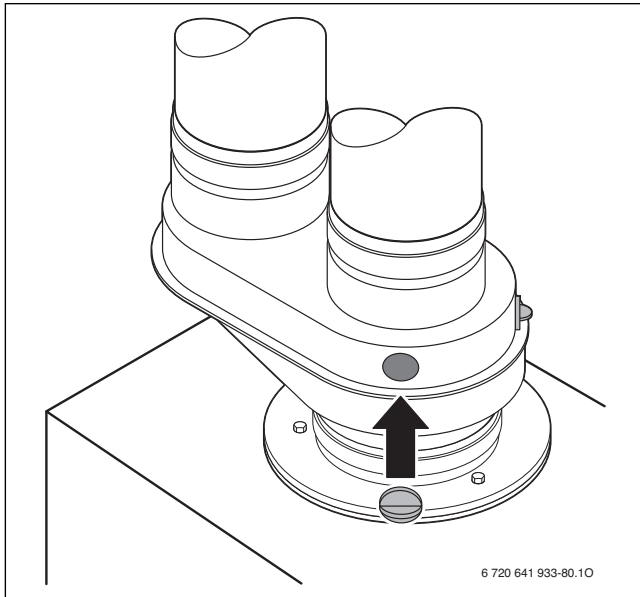

Fig. 62 Close flue gas test ports
- ▶ Remove the flue gas probe and seal the flue gas test port properly (→ Fig. 62, page 47).